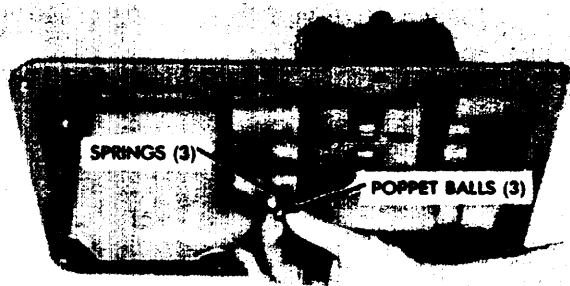

Figure 3-43. Removal of Poppet Balls and Springs.
(3) Turn the shifter cover right side up and remove the poppet balls and springs. (See fig. 3-43.)
(4) Turn shifter shaft cover upside down, and insert the springs and poppet balls into the shifter shaft cover holes. (See fig. 3-43) Depress the spring and ball with a punch and slide the shaft through the shifter fork cover. Use the same procedure for installing the remaining two poppet springs and balls.